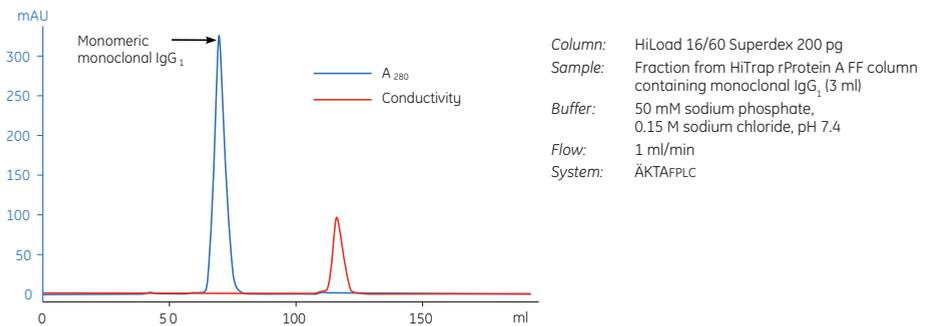

Fig 6.3. Polishing on HiLoad 16/60 Superdex 200 pg.
HiLoad 16/60 Superdex 200 pg was used for the gel filtration (GF) polishing step to remove low or trace levels of contaminants, which in this case were IgG aggregates and/or dimers (Fig 6.3).